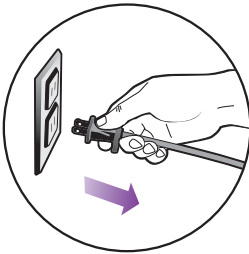

fig. 1
- 1 Pull and twist the quick release cord holder to unwrap the power cord completely. (**fig. 1**) Plug into a 120-volt electrical outlet. (**fig. 2**) The “**On**” light will turn blue. If the light does not turn on, reference the troubleshooting section on page 10. (**fig. 3**)
- 1 When you have finished using the **Light & Easy™** Steam Mop, unplug the cord from the outlet and place the mop into the upright position (**fig. 1**) and let the unit cool 3-5 minutes. Release steam by pumping the handle several times.